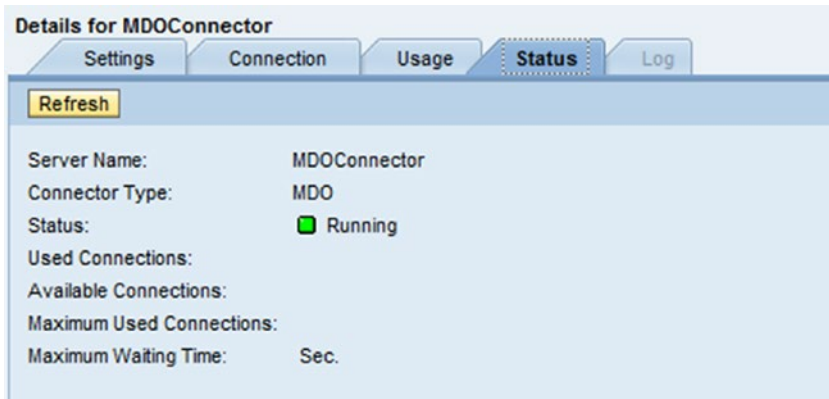

Figure 3-7. Status check in Data Server
7. The Status tab shows the status of the connector as Running, Stopped, or Error, as shown in Figure 3-7.